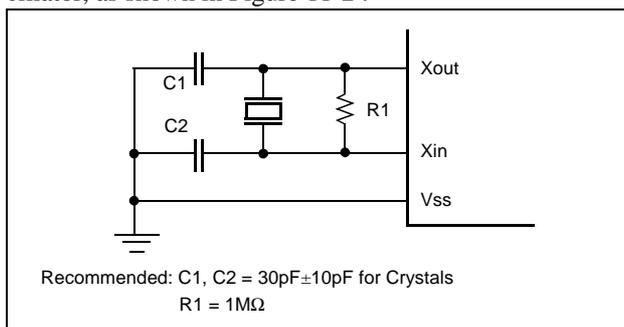

Figure 11-2 Oscillator Connections
X_{IN} and X_{OUT} are the input and output, respectively, a inverting amplifier which can be set for use as an on-chip oscillator, as shown in Figure 11-2 .
- Note:** When using a system clock oscillator, carry out wiring in the broken line area in Figure 11-2 to prevent any effects from wiring capacities.